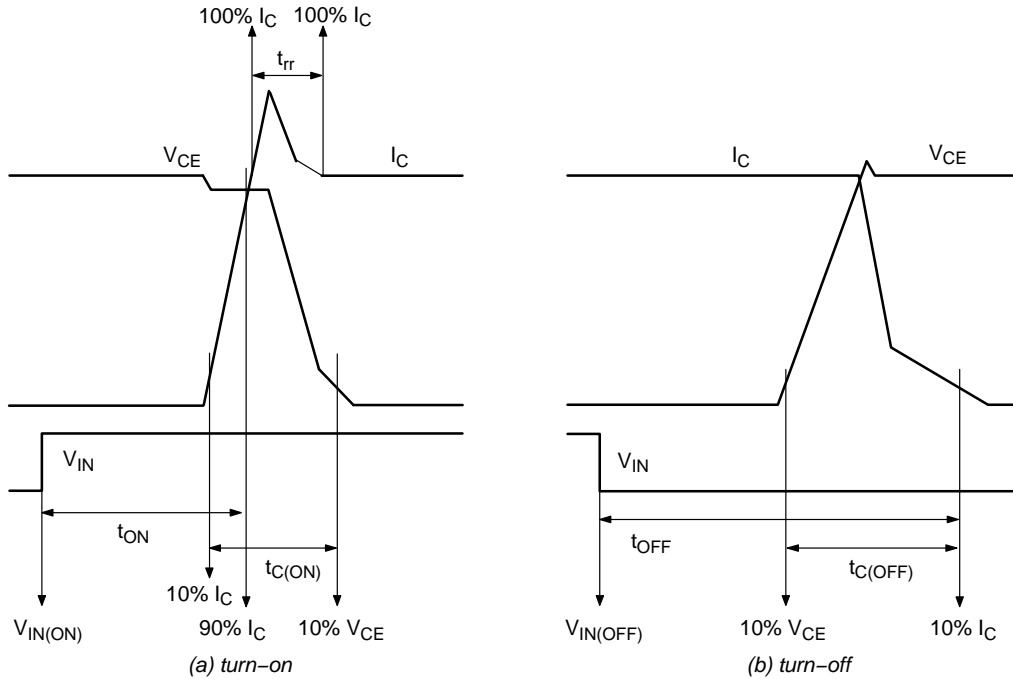

Figure 3. Switching Time Definition
7. tON and tOFF include the propagation delay time of the internal drive IC. tC(ON) and tC(OFF) are the switching times of IGBT itself under the given gate driving condition internally. For the detailed information, please see Figure 3.